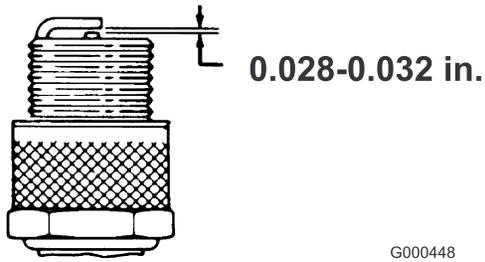

Figure 30
3. Set air gap at 0.028-0.032 inch (Figure 30). Install correctly gapped spark plug and tighten firmly to 17 ft.-lb (23 N-m).